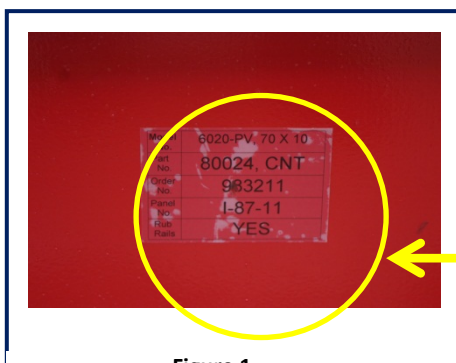

Figure 1
1. Identify the center module. The center module will have load blocks at each end weldment of the module. There is also a decal identifying the center module located on one of the end weldments. See Figure 1.